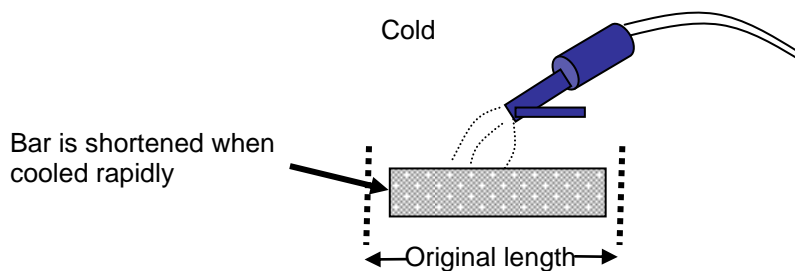

Figure 3C: When metal is cooled rapidly, it contracts
3. Figure 3C shows which of the following:
3. Figure 3C shows the following: